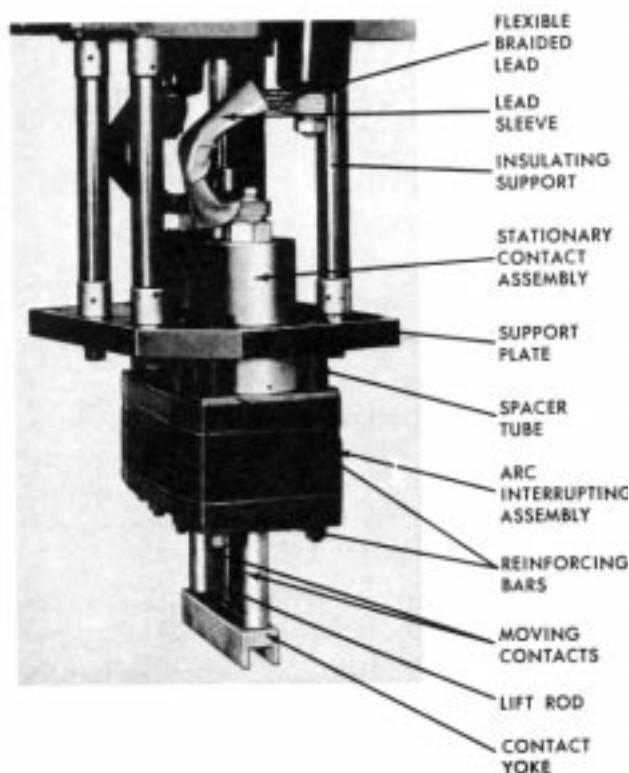

Figure 8
1. Using a 1/2-inch thin-wall socket, remove selflocking hexnut that secures the contact yoke to the lift rod, figure 8. Gently tap contact arm to remove contacts from the lift rod. Pin in the rod must be aligned with a slot in the contact yoke.